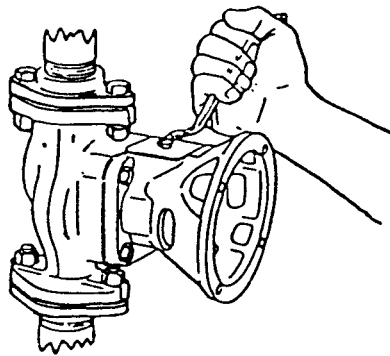

FIG 2. Removing bearing assembly
- 3 Remove bearing assembly from pump body by removing body cap screws (**FIG. 2**).